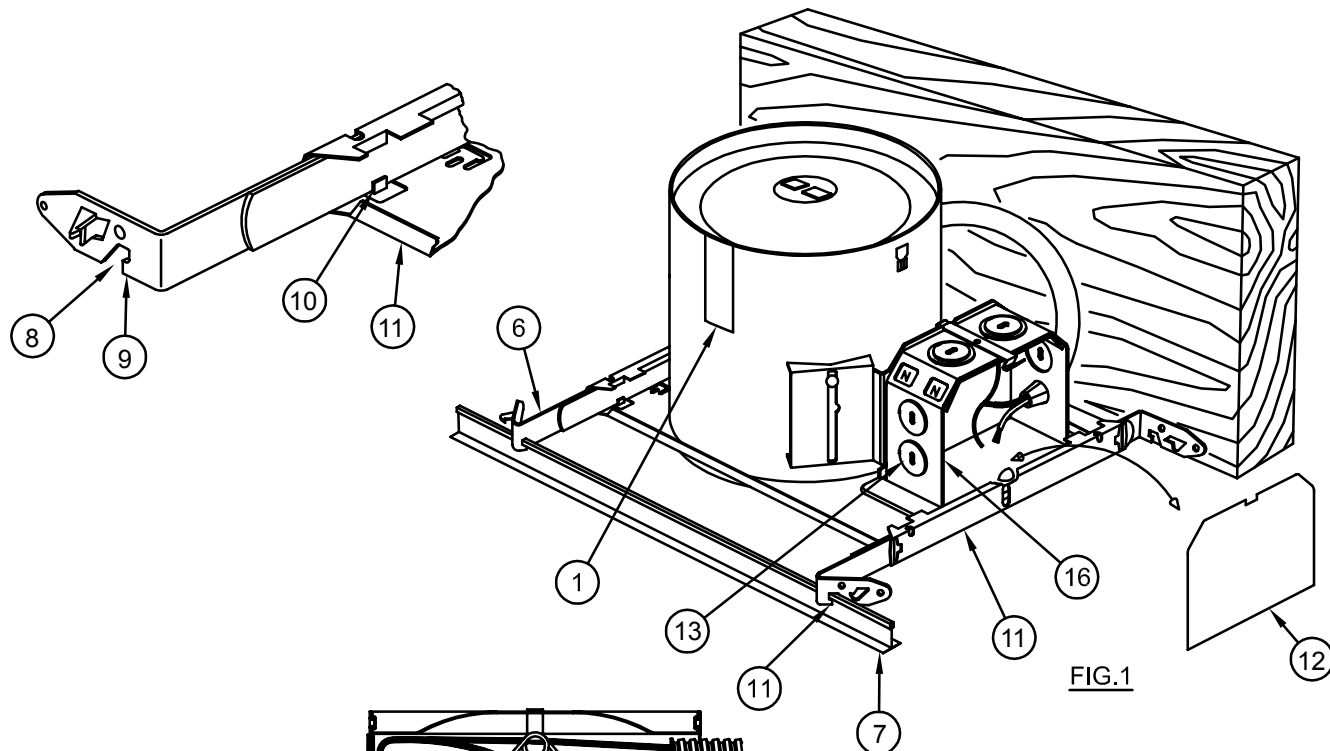

FIG.1
1. For wooden joists: Use the centering notches (4) located on the plaster frame to position the fixture. Extend the hanger bars (6) Drive nail through holes in hanger bars for support (Fig. 1). Bars may be bent to fit tight mounting conditions.
2. On suspended ceilings: Place the fixture on the ceiling grid with the "T" bars (7) running through the hanger bars notches (8). Fold the hanger bar ends closed to engage the integral tabs (9). Secure with pliers if necessary.
3. Locate housing along hanger bar in desired position and, using pliers, squeeze the 4 locking tabs (10) on the plaster frame (11) tightly over the bars to prevent further housing movement.
4. Unsnap junction box cover (12) by lifting the leaf spring.